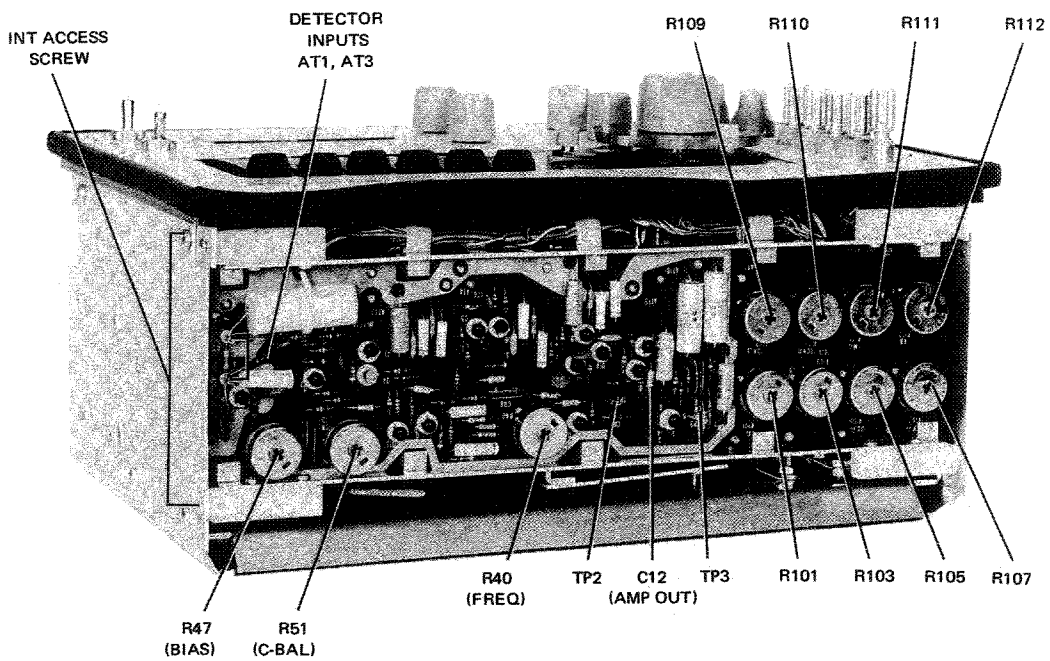

Figure 5-2. 1666 Bridge board adjustments (1666-4700)
For access to the bridge board shown in Figure 5-2 perform the following:
- d. Locate and remove the two interior and board retaining screws, as shown in Figure 5-2 on each side.
5.5.4 Oscillator, Sensitivity Controls – Initial Setup. (Fig. 5-2)
(Figure 5-2)
(Figures 5-2, 6-2)